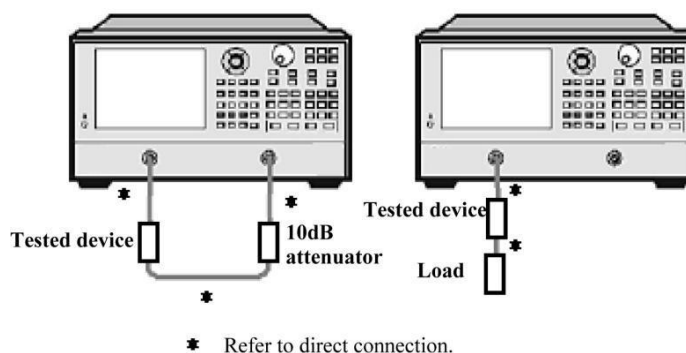

Fig. 8.10 Connection in Impedance Measurement
- 3) Connector shown in Fig. 8.10 for S11 or S22 measurement.
- c) Move the marker along the trace to read the conductance and susceptance component of the complex admittance of the data point, in siemens (S).